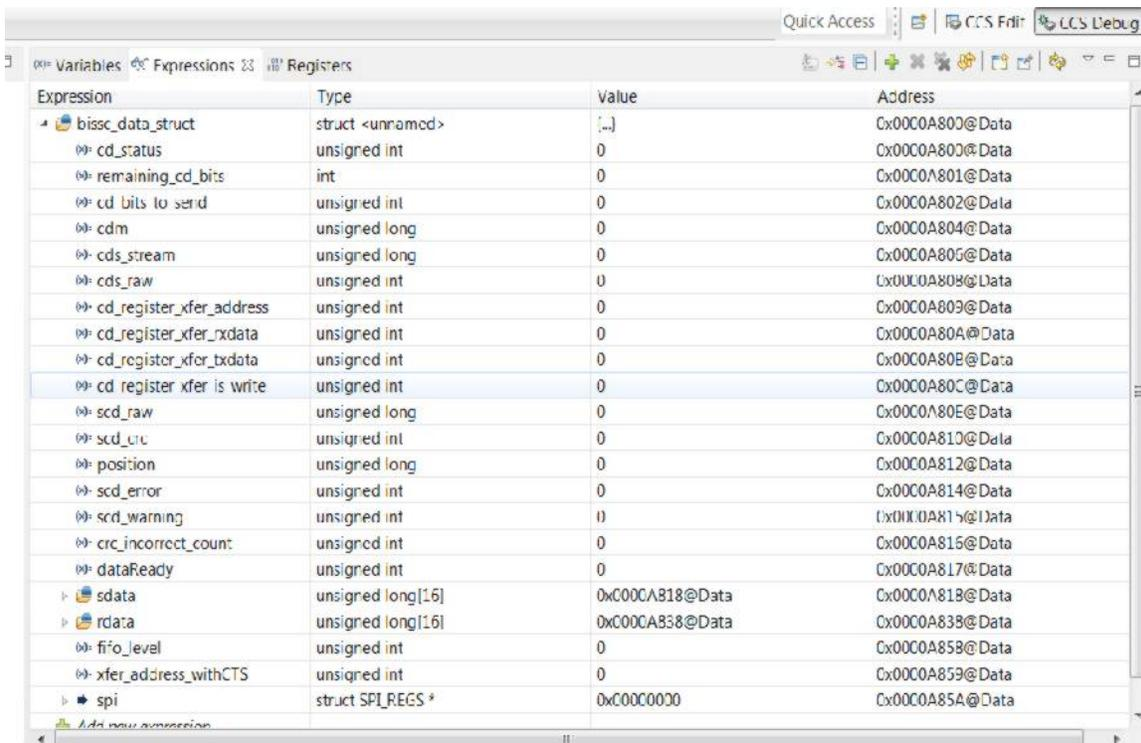

Figure 15. Properly Configured Watch Window
3. For this project, browse to the root directory and select *Pm_bissc_SystemTest_VAR.txt*, and then click the *OK* button to import the variables, as shown in Figure 15.
5. Each variable uses the number format that the variable is associated with during declaration. The variable can be changed to another number format by right-clicking on it. Figure 15 shows a typical expressions window.